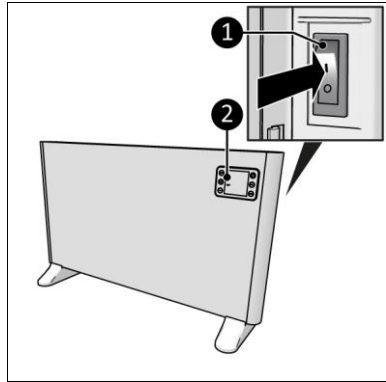

Figure 17
1. Set the ON/OFF switch to the ON position (Figure 17, pos. 1).
2. The display (Figure 17, pos. 2) will show OFF.